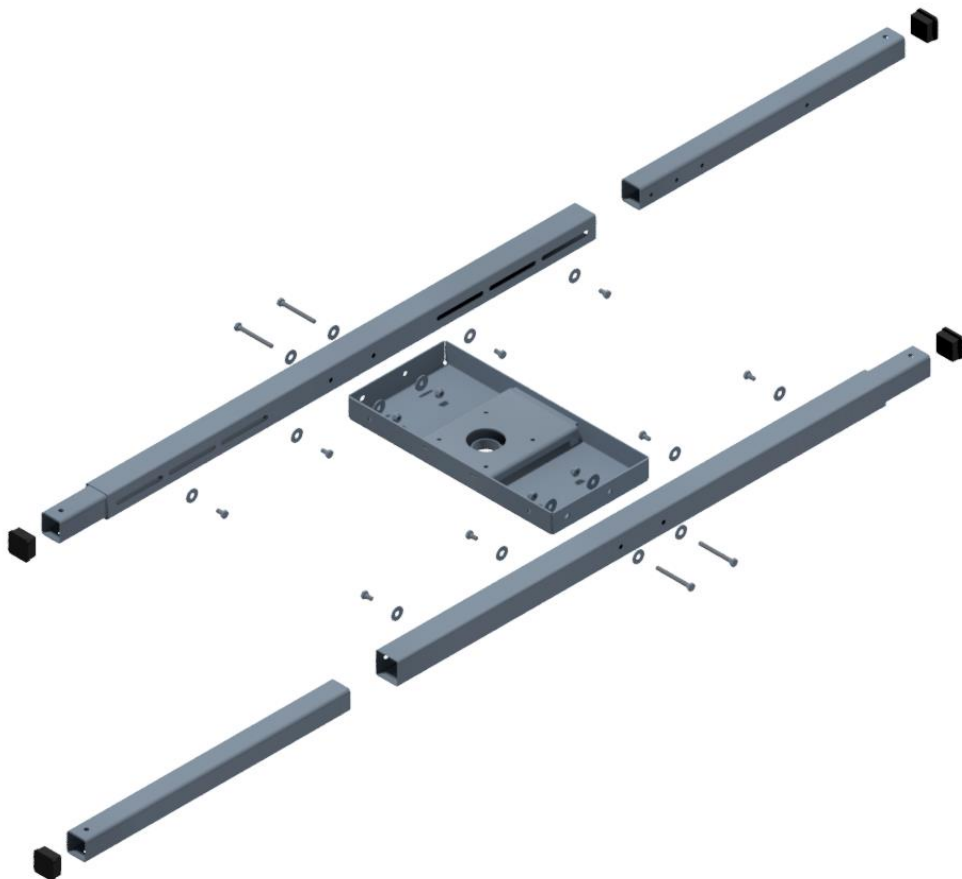

Figure 3 Basic frame of the Enmix Basic
5. Place the frame extensions (1) in the basic frame (2); the tapped holes must face inwards and the black caps must extend out of the basic frame.
6. Ensure that the attachment holes of the frame extensions (1) are adjusted to the correct centre-to-centre distance of the liquid tank.
7. Attach the frame extensions (1) to the basic frame (2) using the following parts:
8. For extra information about the assembly, see Figure 3.